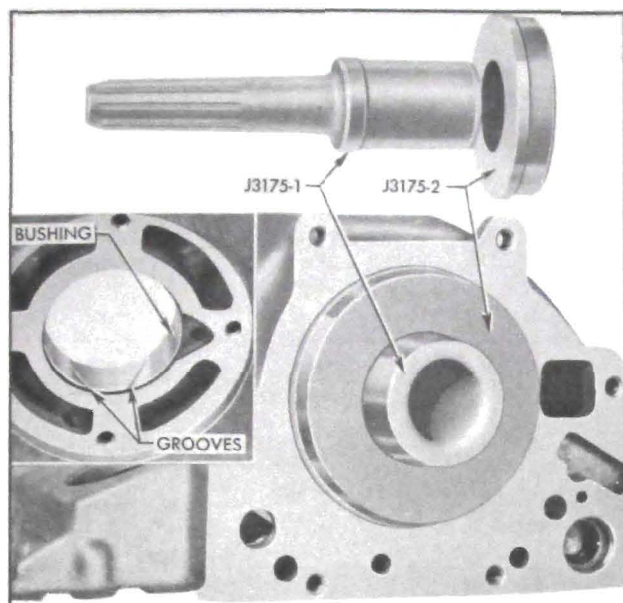

Figure 5-82—Transmission Case Bushing Remover and Replacer J 3175
5. To remove old bushing, place case over an opening with rear end down and drive bushing from case with Remover J 3175-1. To install new bushing place J 3175-2 in rear oil pump recess of case to serve as a pilot, slip bushing over J 3175-1 and drive bushing into case from front side until bushing is flush with front surface of wall which supports the bushing. Bushing must be installed with the wide deep ends of oil grooves toward rear side of case. See figure 5-82.